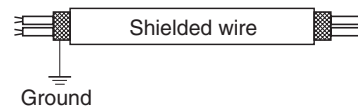

Fig. 5-26
- In case of using shielded wires for inter-unit control wiring, ground the shield on one side. (Fig. 5-26) Otherwise misoperation because of electrical noise may occur.